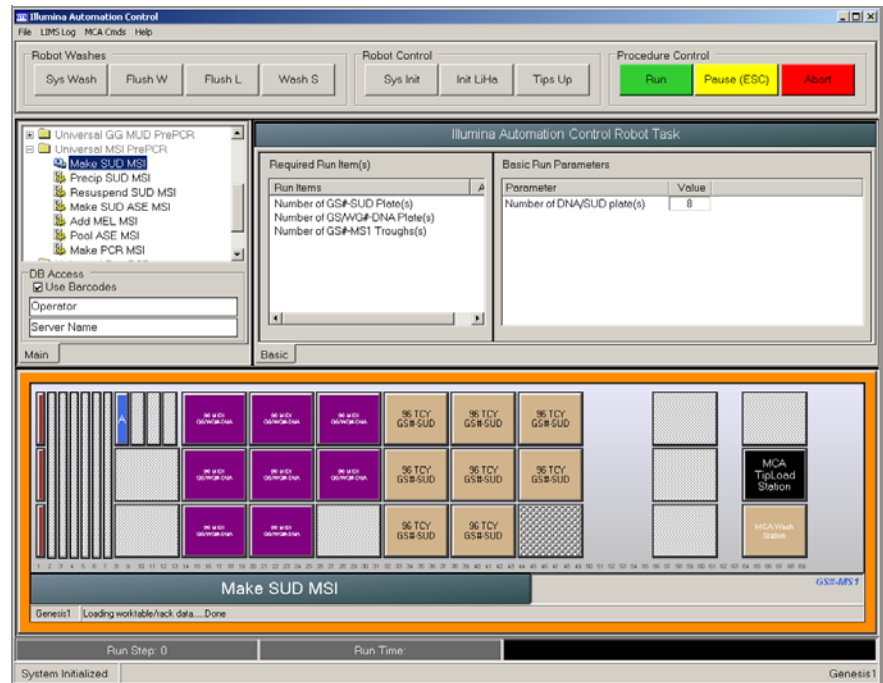

Figure 10 Universal MSI Pre-PCR / Make SUD MSI
1. From the robot PC, select **Universal MSI PrePCR | Make SUD MSI** (Figure 10).